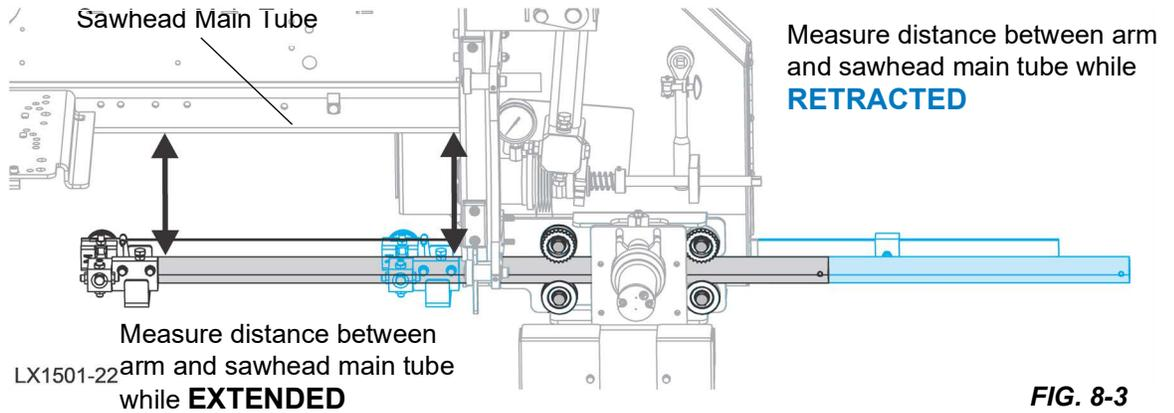

FIG. 8-3
4. Adjust the blade guide arm to within 1/2" (13 mm) of fully retracted (blue/right position in Figure 8-3).
5. Measure the distance between the sawhead main tube and the blade guide arm. See Fig. 8-3.
7. Measure the distance between the sawhead main tube and the blade guide arm. See Fig. 8-3.
9. Fully extend the blade guide arm. See Fig.8-3.